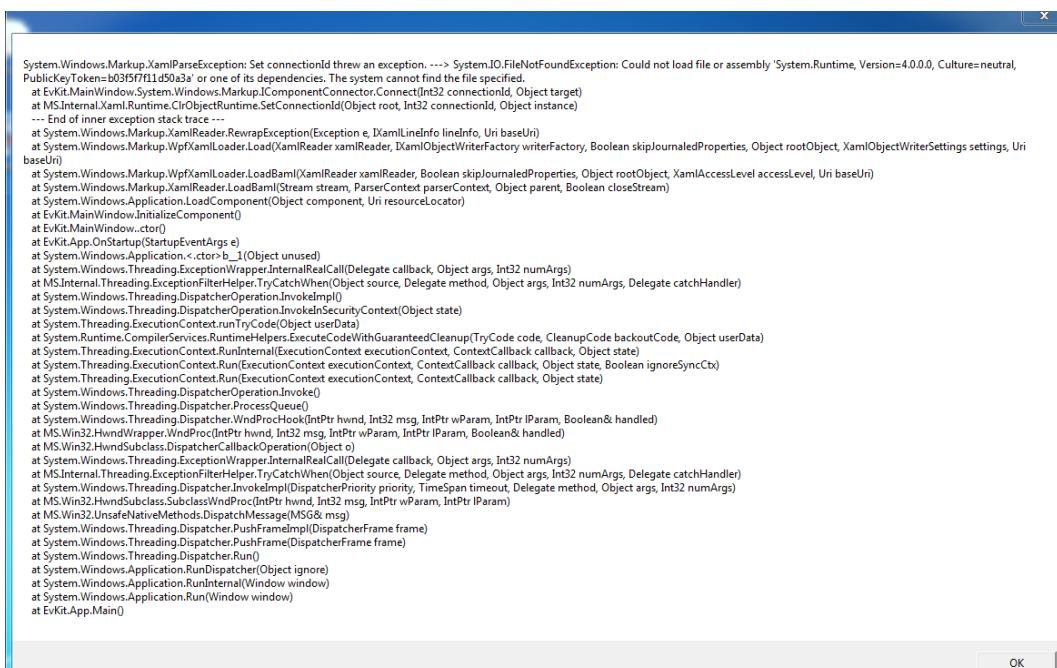

Figure 74: A Windows error message which indicates that Windows .NET installation is out-of-date.
- If an error message shown in Figure 74 appears, the Windows .NET installation is not up to date. Please run Windows update or install the required .Net version manually to resolve the issue.